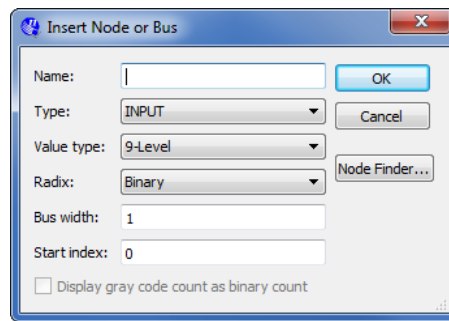
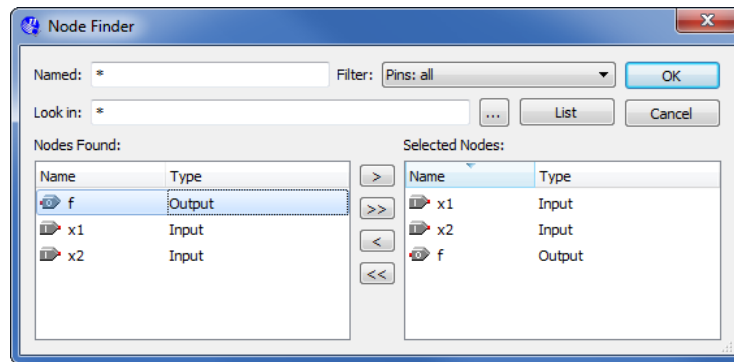
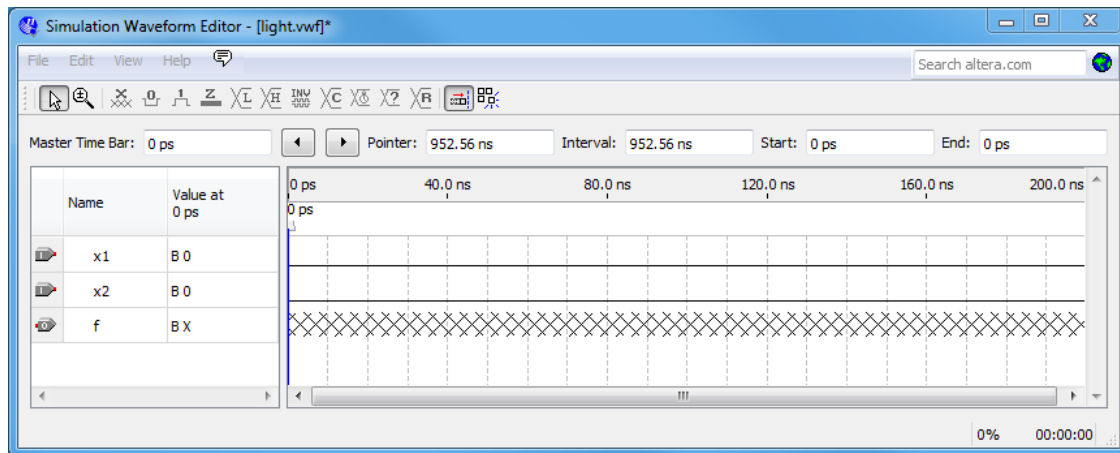

Figure 31. The Insert Node or Bus dialogue.
Figure 32. Selecting nodes to insert into the Waveform Editor.
Figure 33. The nodes needed for simulation.
- Next, we want to include the input and output nodes of the circuit to be simulated. Click **Edit > Insert > Insert Node or Bus** to open the window in Figure 31. It is possible to type the name of a signal (pin) into the Name box, or use the Node Finder to search your project for the signals. Click on the button labeled **Node Finder** to open the window in Figure 32. The Node Finder utility has a filter used to indicate what type of nodes are to be found. Since we are interested in input and output pins, set the filter to **Pins: all**. Click the **List** button to find the input and output nodes as indicated on the left side of the figure.
Click on the *x1* signal in the Nodes Found box in Figure 32, and then click the > sign to add it to the Selected Nodes box on the right side of the figure. Do the same for *x2* and *f*. Click OK to close the Node Finder window, and then click OK in the window of Figure 31. This leaves a fully displayed Waveform Editor window, as shown in Figure 33. If you did not select the nodes in the same order as displayed in Figure 33, it is possible to rearrange them. To move a waveform up or down in the Waveform Editor window, click within the node's row (i.e. on its name, icon, or value) and release the mouse button. The waveform is now highlighted to show the selection. Click again on the waveform and drag it up or down in the Waveform Editor.